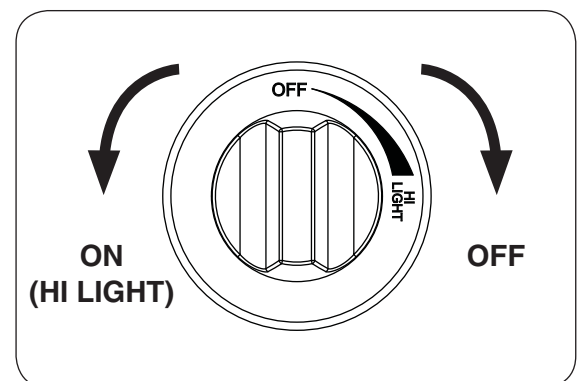

Fig. 17-2
4. **Once the match is burning and in position**, depress the gas control knob and turn it counter-clockwise to the **HI LIGHT** position (see Fig. 17-2). Your burner should light.
To extinguish your gas burner, depress the gas control knob and turn it clockwise to the **OFF** position (see Fig. 17-2). Be sure the control knob is turned fully off to avoid any gas leakage.